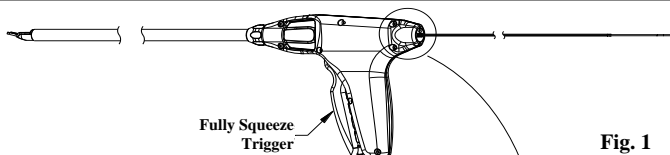

Fig. 1
2. Fully squeeze the handpiece trigger against the handle. (Fig. 1)